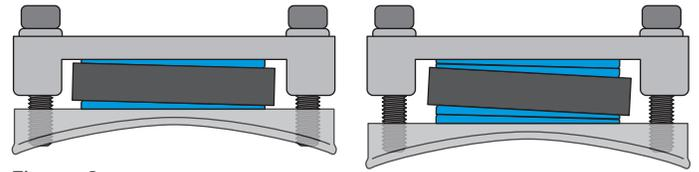

Figure 2
- When adding wedges, two wedges must be used at any time in the manner shown in Figure 2 where each wedge faces in the opposite direction to keep the bracket square. A maximum of four wedges (2 on each side) may be used at any time.